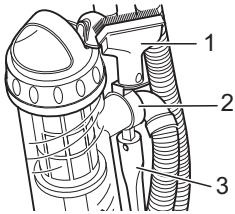

Fig. 4
■ The crevice nozzle (Fig. 4/3) and the 2-in-1 combi-nozzle (Fig. 4/1) are included as accessories in the scope of delivery. They can be secured to the accessories mount (Fig. 4/2).
- **Crevice nozzle (Fig. 4/3)**
- **2-in-1 combi-nozzle (Fig. 4/1) to be used as:**